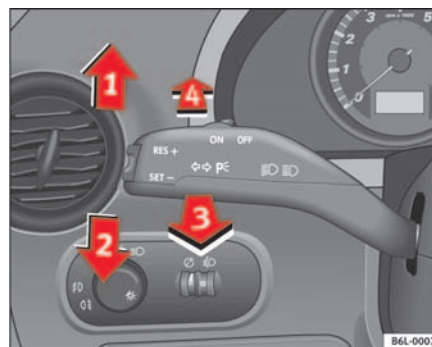

Fig. 59 Turn signal and main beam headlight lever
- Move the lever all the way up \Rightarrow fig. 59 ① to indicate **right**, and all the way down ② to indicate **left**.
- Press the lever forward \Rightarrow page 90, fig. 59  to switch on the main beams.